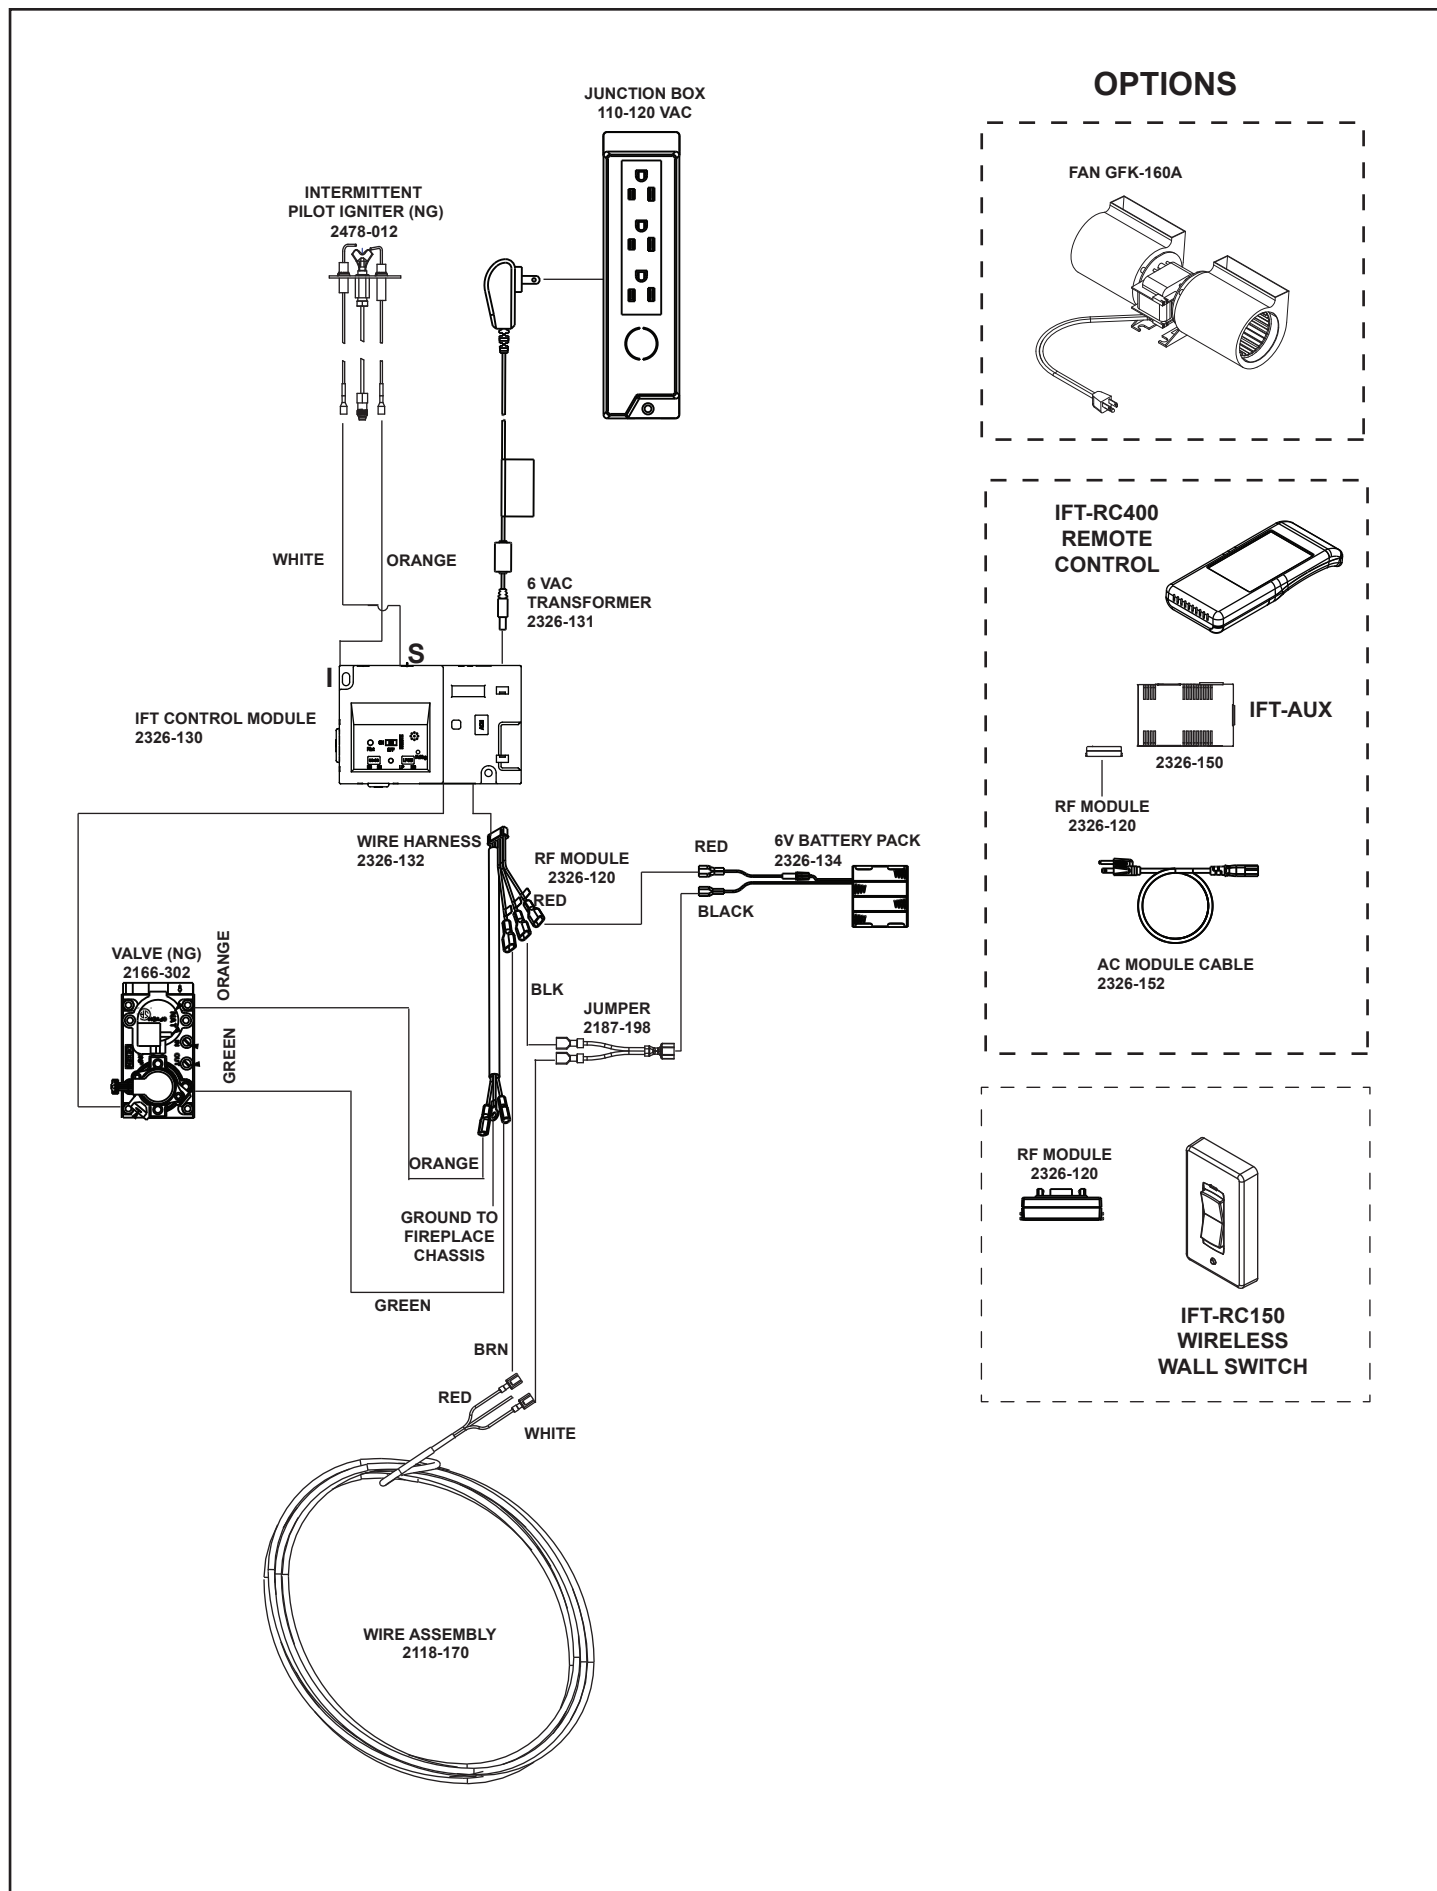

Figure 8.2 IntelliFire Touch Wiring With Wall Switch
- Refer to Figure 8.2 IntelliFire Touch (IFT) Wiring Diagram.